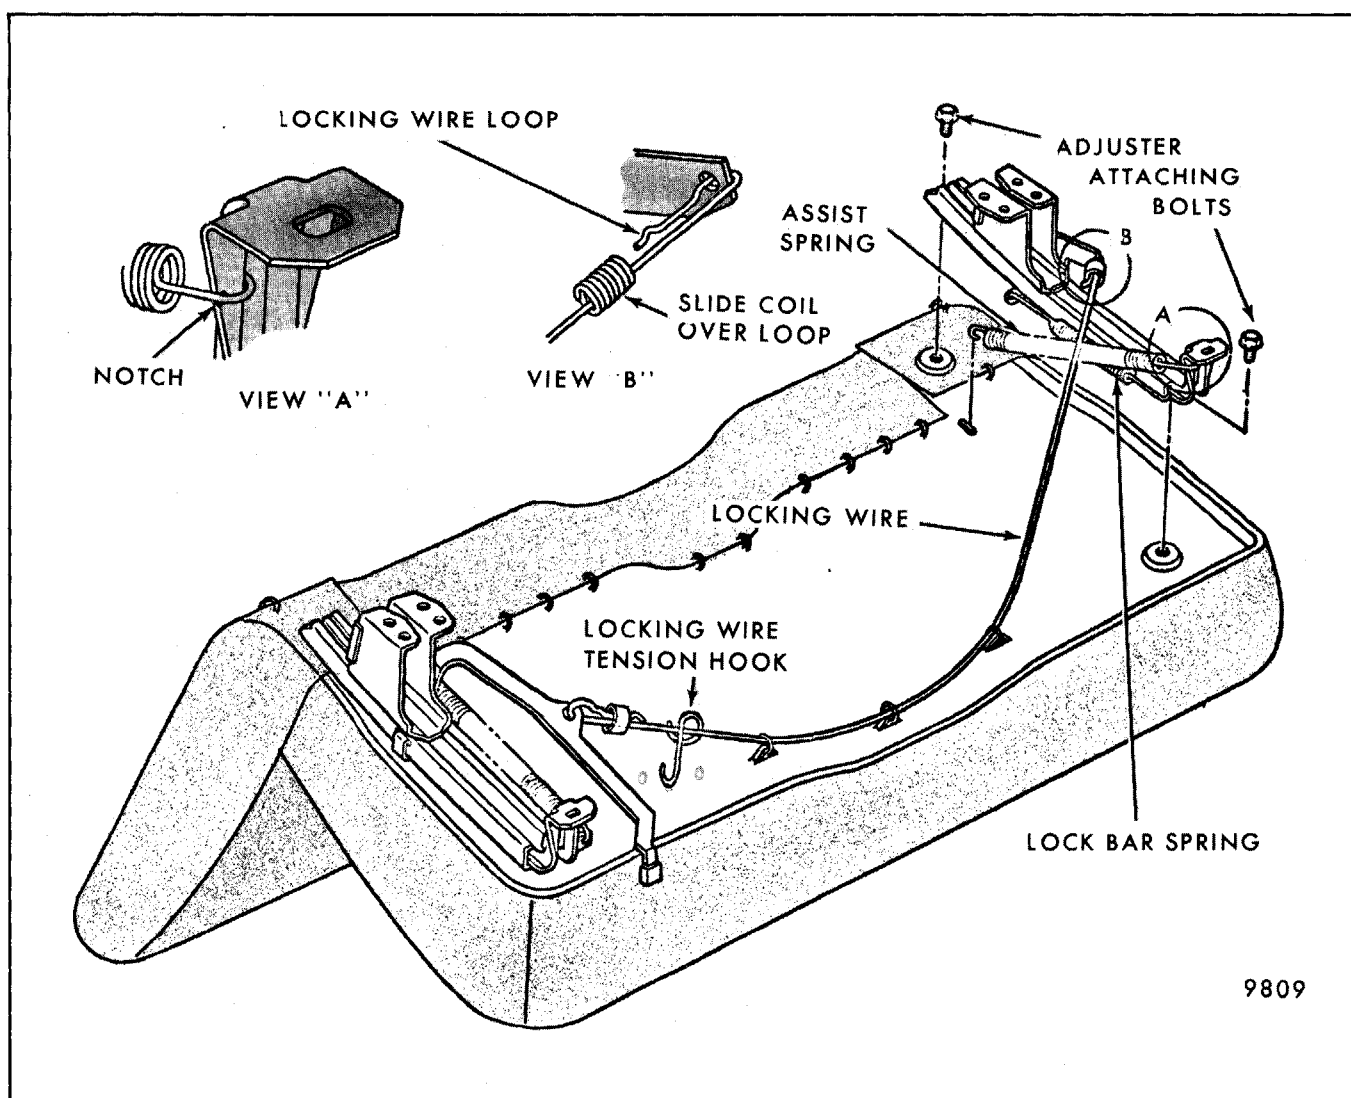

Fig. 9-47 - A, B and C Style Manual Seat Adjusters - Full Width Seat
- Figure 9-47 - A, B and C Style Manual Seat Adjusters - Full Width Seat